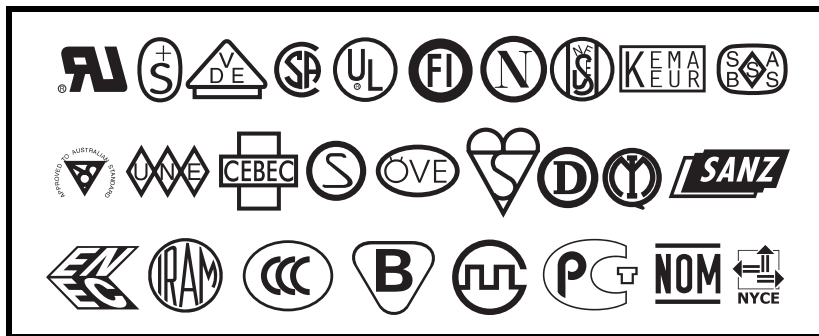

Figure 38. International Safety Organization Symbols
- The AC power plug and IEC 320 connector must bear the certification mark of at least one of the known international safety organizations shown in Figure 38.